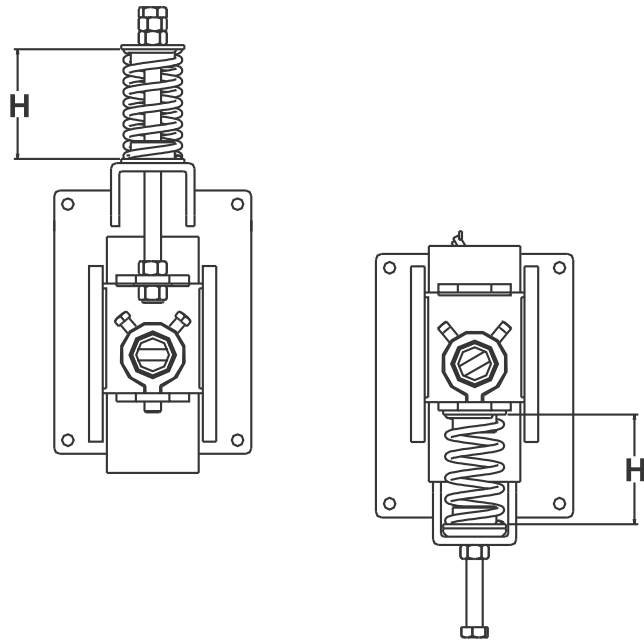

Figure 9. Spring Height (H) Measurement Location
Raise the Slide Blocks by evenly turning the adjustment bolts until the blade just contacts the belt. Check that the blade is evenly contacting the belt along the entire length of the blade. Once uniform blade/belt contact has been achieved, evenly raise the Slide Blocks causing the spring to load. Continue to tighten until sufficient upward force (blade pressure) has been achieved see Table 2 below. Spring Height (H) is the suggested tension starting point See Figure 9. Firmly tighten the lock nut on the two adjustment bolts. It maybe possible that there is enough play in the belt that there can be enough downward force via belt weight so that compressing the spring may not be necessary.